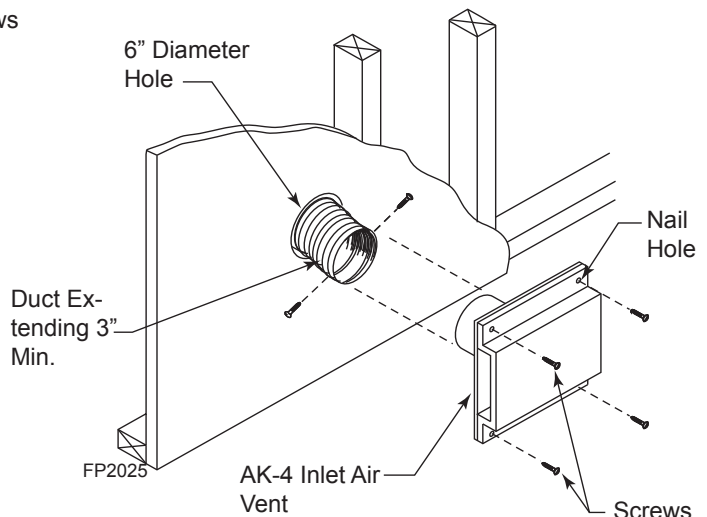

Figure 14 -
3. Cut a 6" diameter opening for model OAC-4 in the outside wall covering where the outside vent is to be located. *Figure 14*
5. If using insulating duct, push the insulation back from one end of the duct approximately 2". *Figure 14*